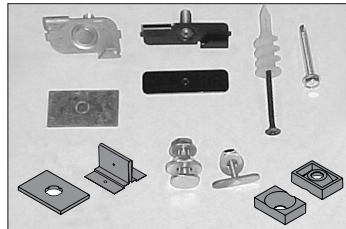

Figure 1A
1. Many ceiling grids accept standard Caddy Clips such as  $\frac{9}{16}$ " and  $\frac{15}{16}$ " (Figure 1). When the grid is recessed, spring spacers and seismic ceiling clips must be used. Use Caddy Clip spacers to prevent scratching the grid (Figure 1A). Donn  $\frac{9}{16}$ " fine line uses a  $\frac{1}{4}$ "-20 T-bolt. Drywall and hidden grid ceilings require direct attachment of the rail with screws or anchors. Figures 1-3 on the following page show seismic ceiling clip installation steps.